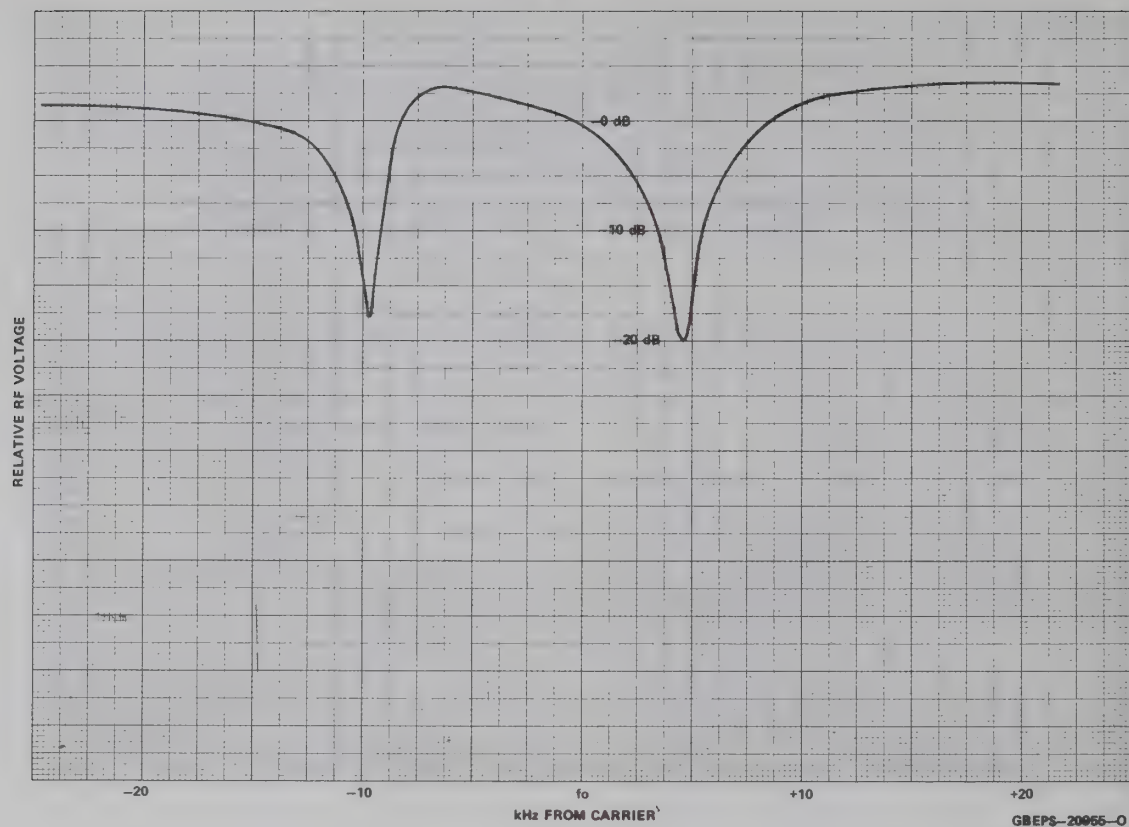

Figure 1. Typical Plot of a Known Good Crystal in Position Y601 or Y603
3.5.5.3 Figures 1 and 2 are plots of typical rf voltmeter readings obtained while testing good crystals. Note that the horizontal scales are calibrated in frequency, with  $f_0$  the channel frequency of the receiver. The vertical scales represent *relative* rf voltmeter readings. The bottom line is zero and the top line is maximum. Notice that each plot has a sharp minimum point above  $f_0$  and another below  $f_0$ . The table of crystal dip frequencies at the end of this section lists the frequencies at which these dip points should appear. If the measured dips fall outside the tolerances listed in the table, the crystal *may* be defective.